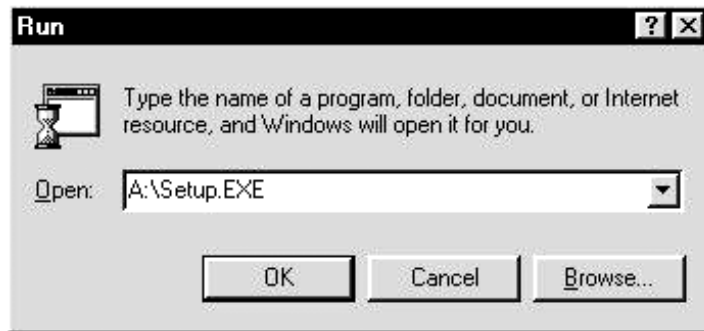

Figure 2-1. Install the 7000 Utility.
3. Enter "A: Setup.exe" as shown in Figure 2-1 (or whatever drive letter applies).